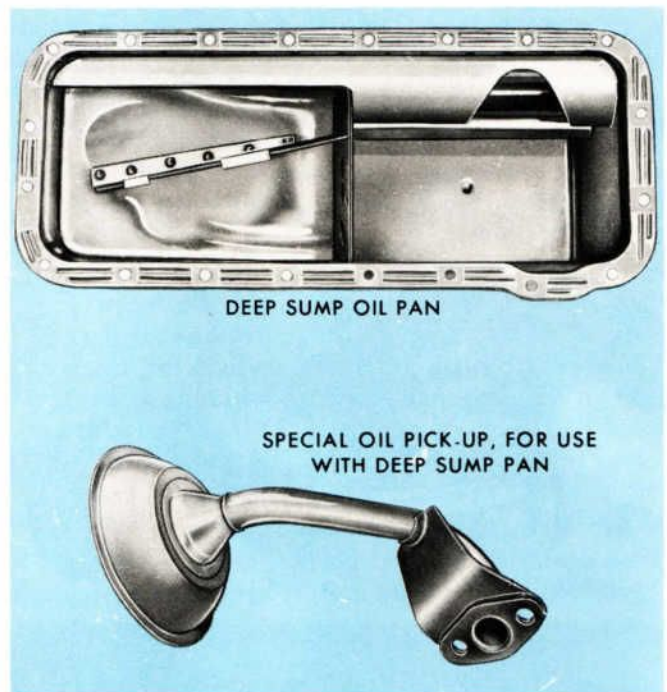

FIGURE 114. DEEP SUMP OIL PAN AND PICKUP
- **Oil Pans**—Stock oil pans, which are more than adequate for normal driving needs, may have insufficient capacity for high-performance requirements; one of which is to maintain oil temperatures below 275°. Another requirement is to keep oil away from rotating parts. This is accomplished by baffle plates welded inside the oil pan. (See Figure 114.)